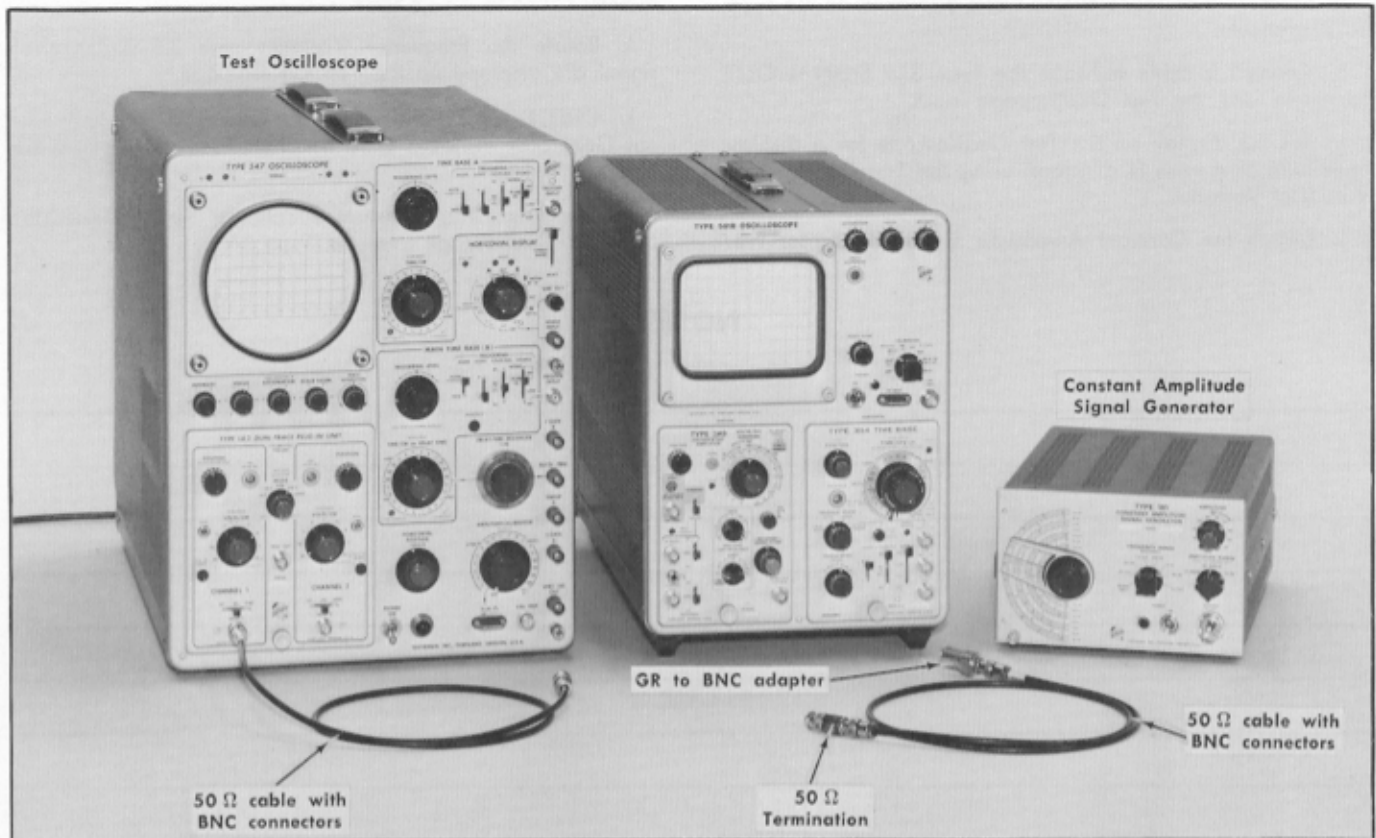

Fig. 5-38. Equipment required for step 32.
- Test equipment is shown in Fig. 5-38.